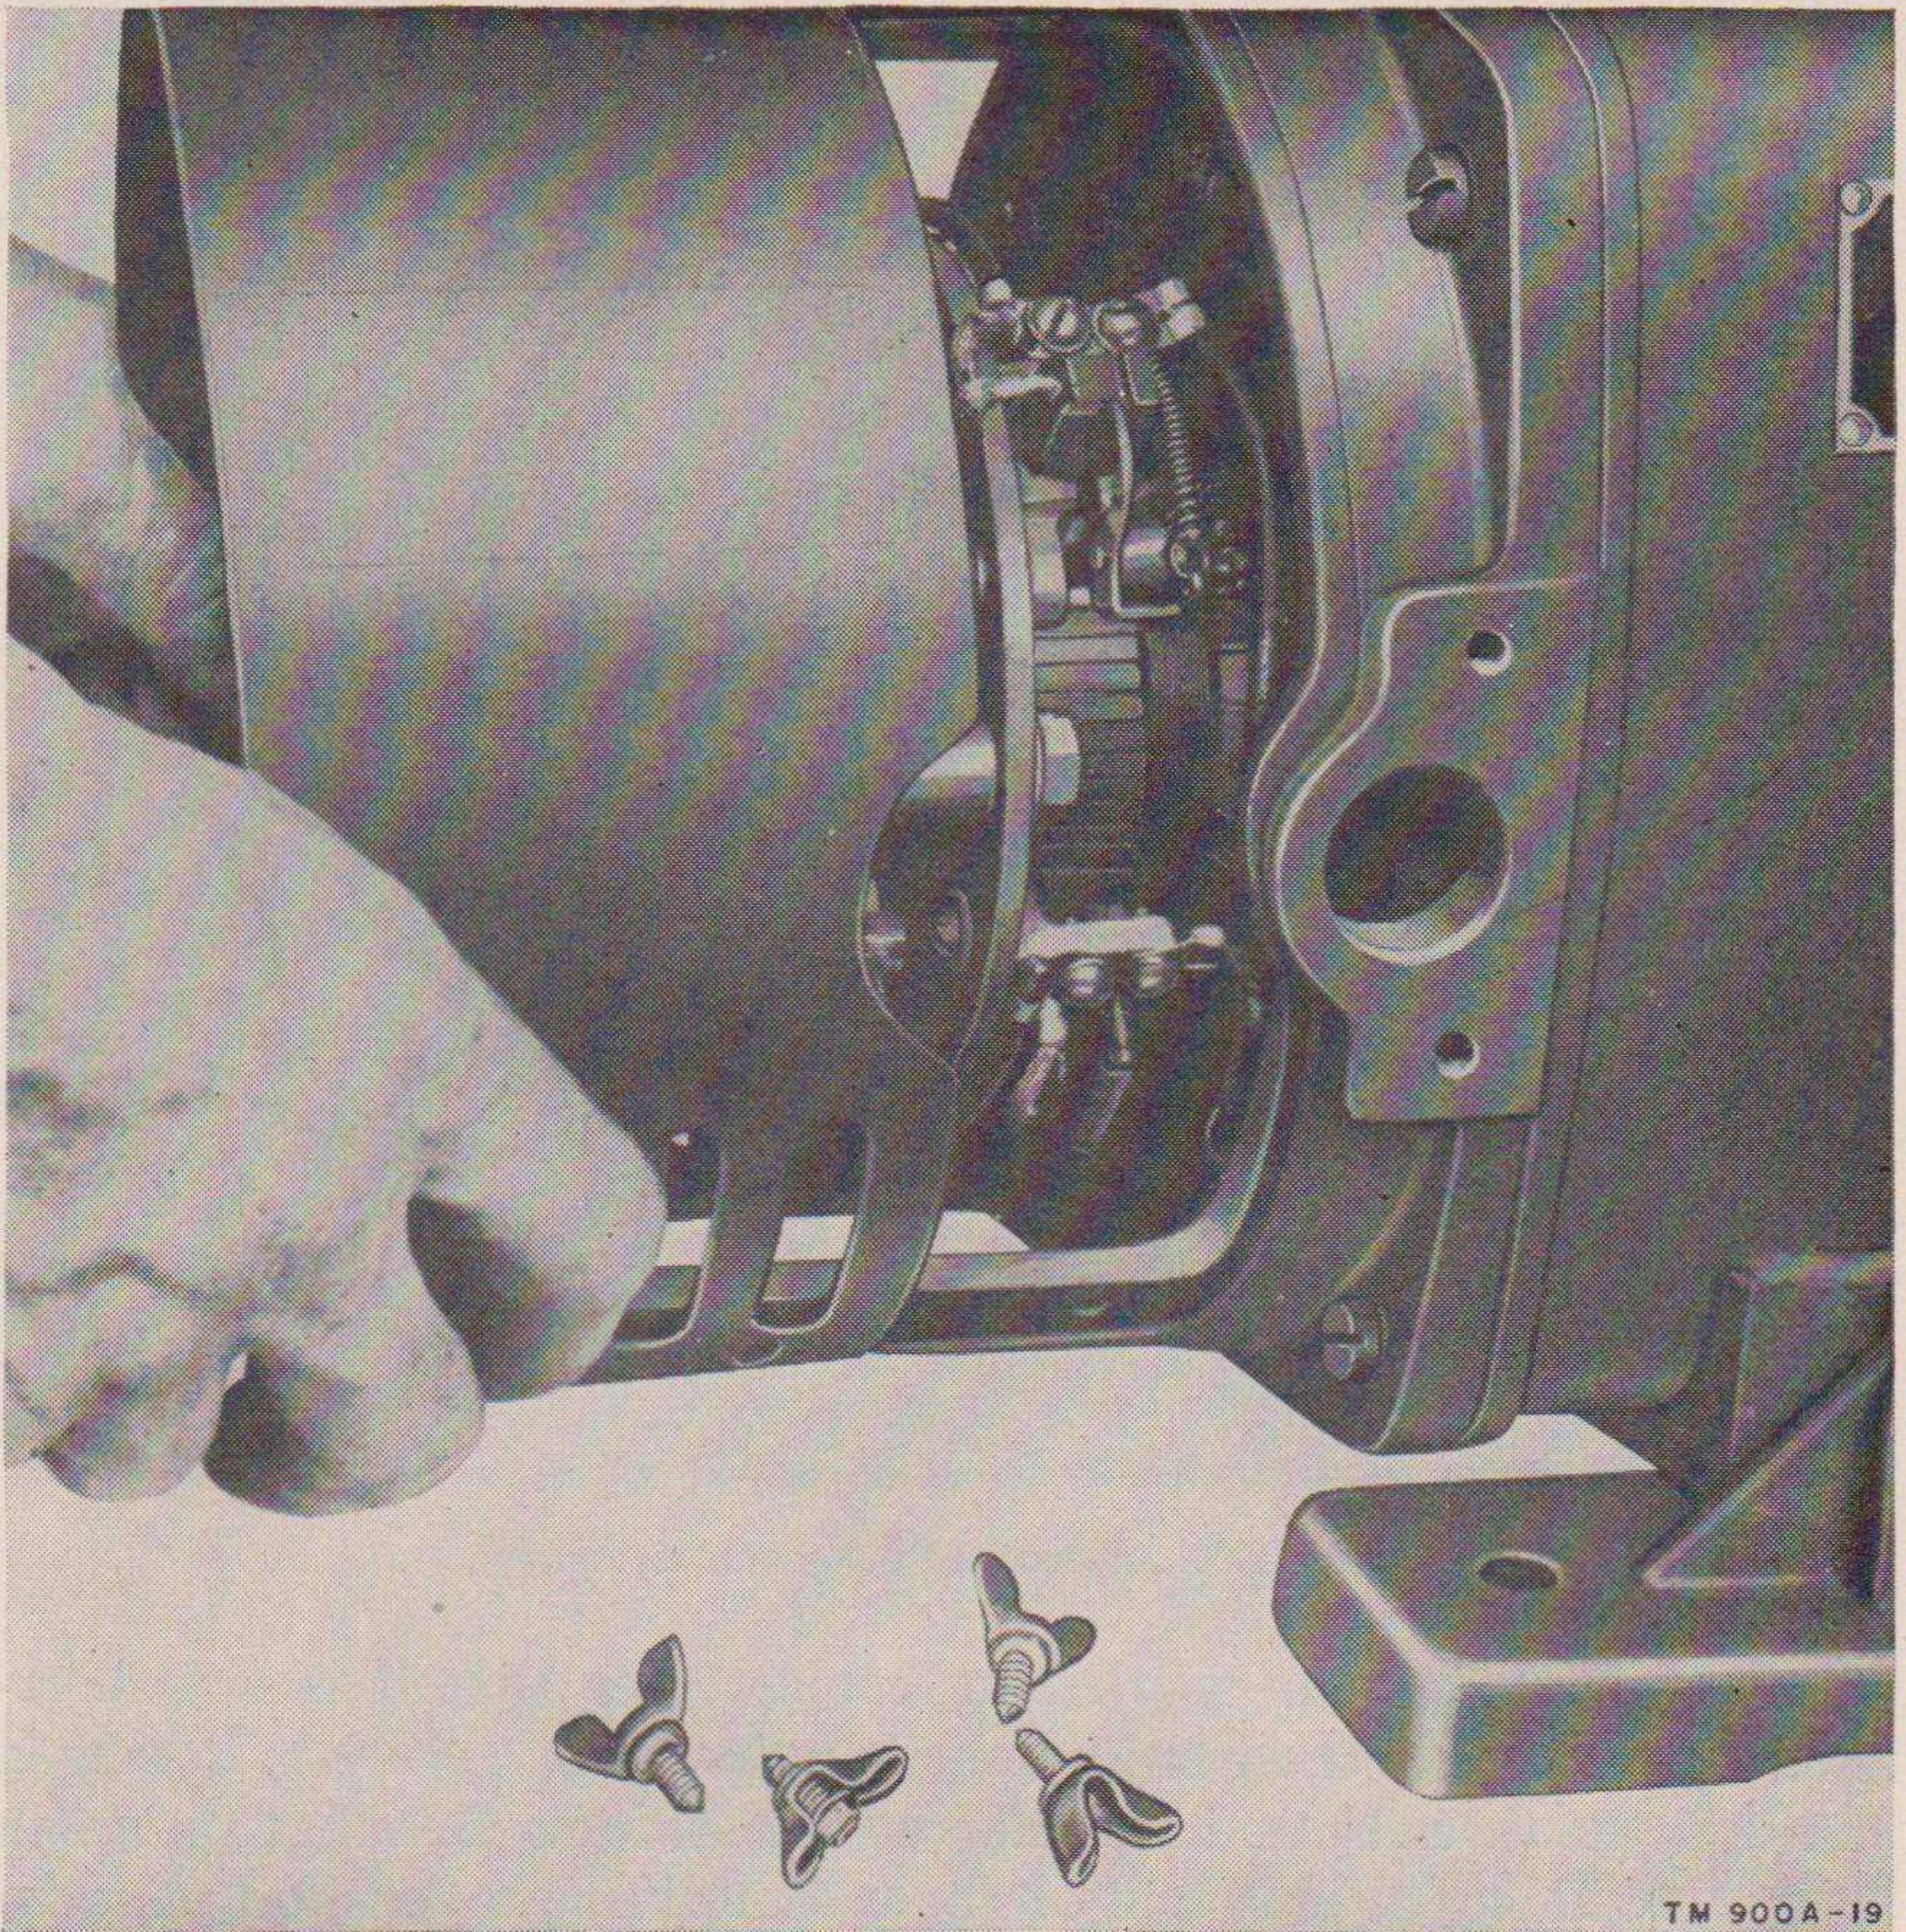

Figure 19. Removing commutator cover.
c. Commutator Cover Removal (fig. 19). To remove the commutator end cover, remove the four wing screws and slide the cover from the end of the generator.